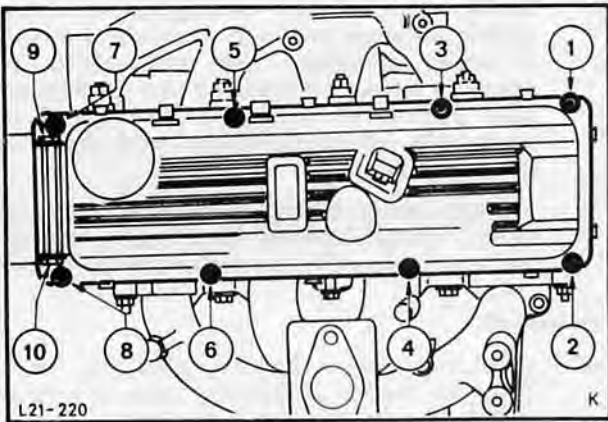

Fig. 171. Rocker cover bolt tightening sequence
4. Tighten rocker cover bolts to specified torque in four stages, as shown in Fig. 171.